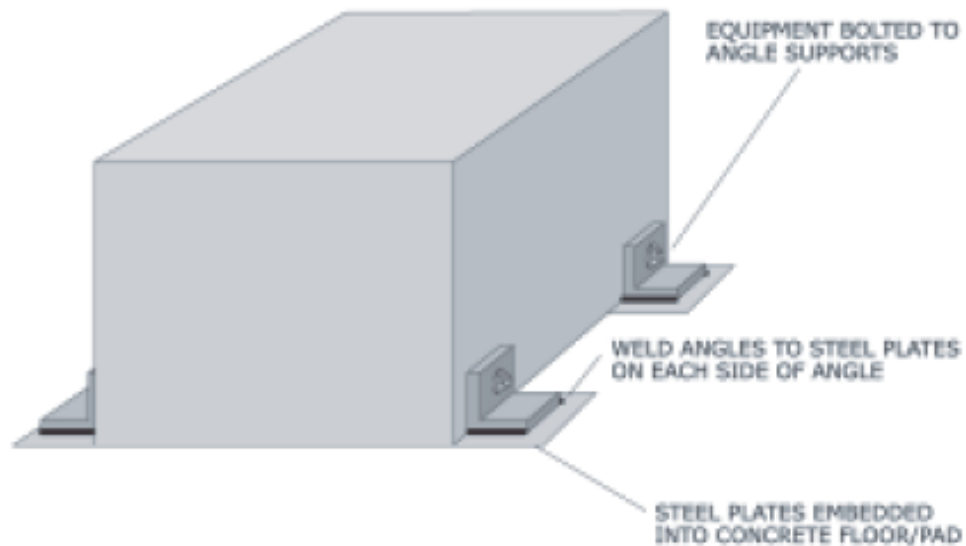

Figure 74: Four or more angles on each side of equipment welded to embedded plates. Figure 149 (page 116) gives examples of embedded steel plates.
- Four or more angles on each side of equipment welded to embedded plates: Figure 74 (page 38).